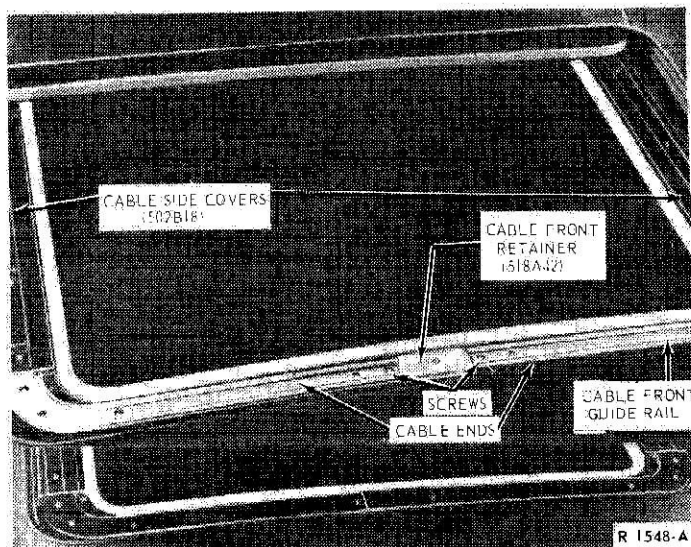
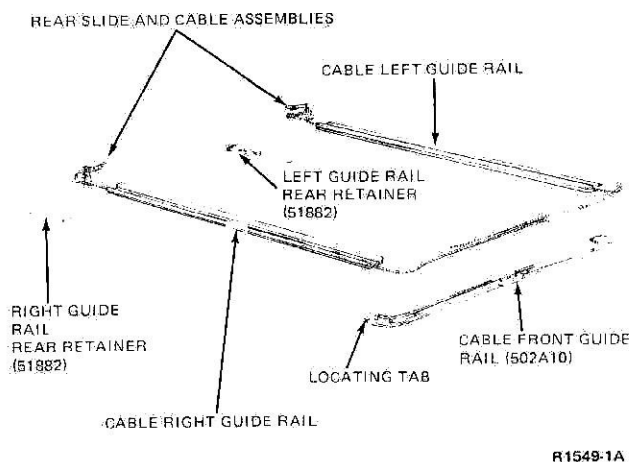

FIG. 7 Cables and Guide Rails Installed
FIG. 8 Guide Rail and Cable System
tabs at the left and right ends of the front guide rail from the left and right guide rails, respectively, and remove the front guide rail (Fig. 8).
4. Slide the cable left and right guide rails from their respective rear retainers and lift them out of the panel housing (Fig. 8). The guide rails will contain the rear slide and cable assemblies.
6. Remove the rear slide and cable assemblies from the guide rails, by sliding them forward and out (Fig. 8).
1. Insert the rear slide and cable assemblies into the guide rails. The plastic rollers on each rear slide assembly should be inboard, so that the right and left slides will be installed in the right and left guide rails, respectively (Fig. 8).
2. Install the left and right guide rails in the panel housing, sliding them onto their respective rear retainers (Fig. 8). Be sure that the guide rail rear retainers are engaged in their brackets at the rear of the housing assembly, inside the roof.
3. Install the front guide rail in the housing, so that the locating tabs on each end engage the right and left guide rails (Fig. 8). Then install the two retaining screws near the center of the front guide rail (Fig. 7).
4. Install the two cable side covers (3 screws each, Fig. 7), and pull both rear slide assemblies forward against the stops of the cable side covers.
5. Thread the right cable into the outboard channel of the left guide rail and the left cable into the inboard channel of the right guide rail (Fig. 8).
6. Seat the cable into the front guide rail and install the cable front retainer on top of the cables in the center of the front guide rail (Figs. 7 and 8).
8. Make sure that the cable rear slides are still positioned against the stops of the cable side covers, and then install the cable front cover (9 screws, Fig. 7).